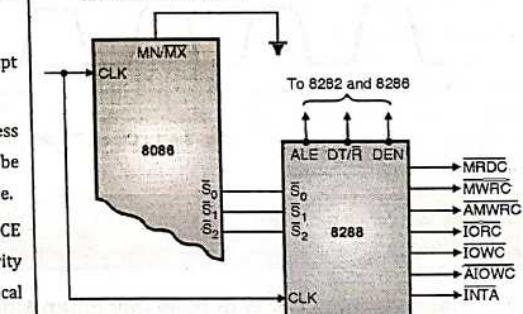

Fig. 3.5.2 : Interfacing of 8288 with 8086
- The interfacing of the bus controller 8288 with the 8086 processor is shown in Fig. 3.5.2.